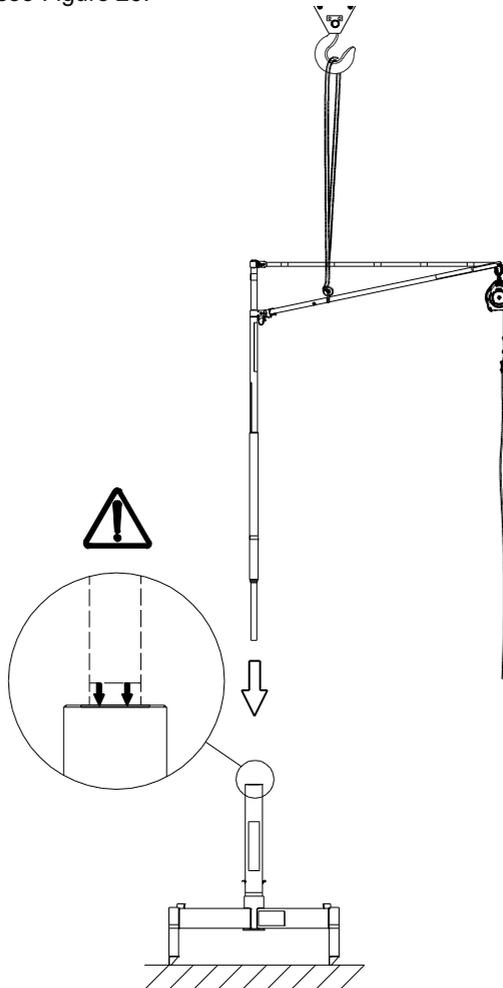

Figure 29. Placement of the SKYREACH unit into TOP COLUMN while TOP FRAME still standing on the ground. Beware of the crane and its movement to avoid injuries.
8. Use a crane to lift the assembled SKYREACH by placing the crane hook to the sling which is attached to the SKYREACH. Lower it down into the TOP COLUMN/LOADING SYSTEM ADAPTER while the TOP FRAME is still standing on the ground, see Figure 29. Use the HOOK to guide the SKYREACH into place if needed. Make sure that the SKYREACH is inserted the correct length, please observe the Insertion Marking Label position, see Figure 29.